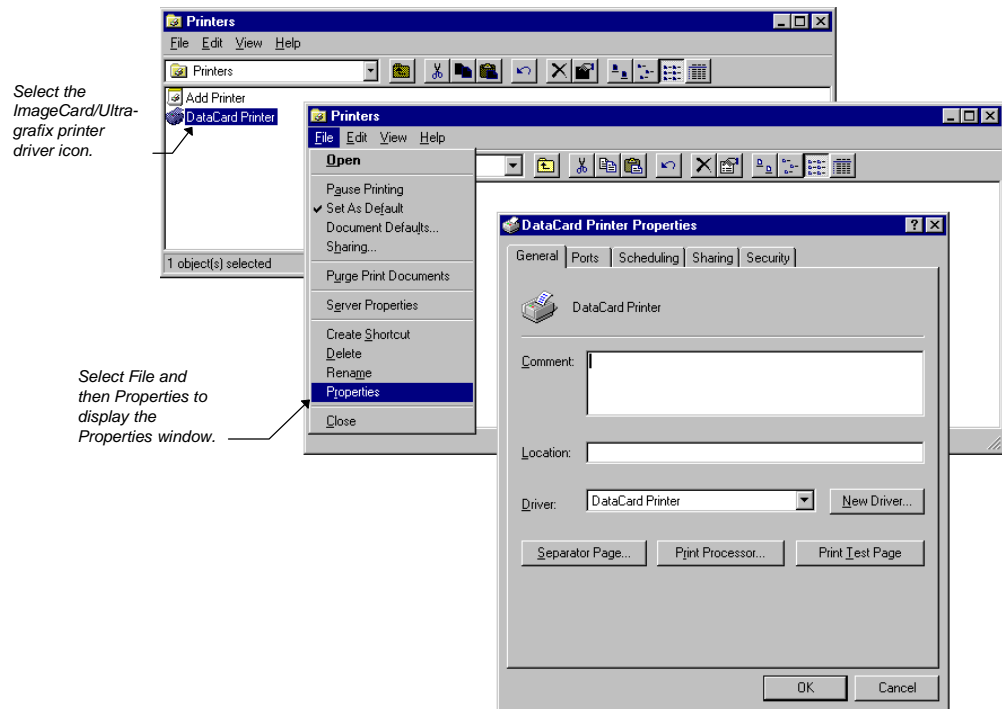

Figure 3:-3 Display the Properties dialog box (in Windows NT)
2. Select Settings and then Printers (see Figure 3:-1). The Printers window appears.
3. Click once on the printer driver icon (see Figure 3:-2 or Figure 3:-3). (The icon has the name chosen during installation.)
4. Select File from the Printers menu, and then select Properties (see Figure 3:-2 if you are using Windows 95/98 or Figure 3:-3 for Windows NT). The printer's Properties window appears.